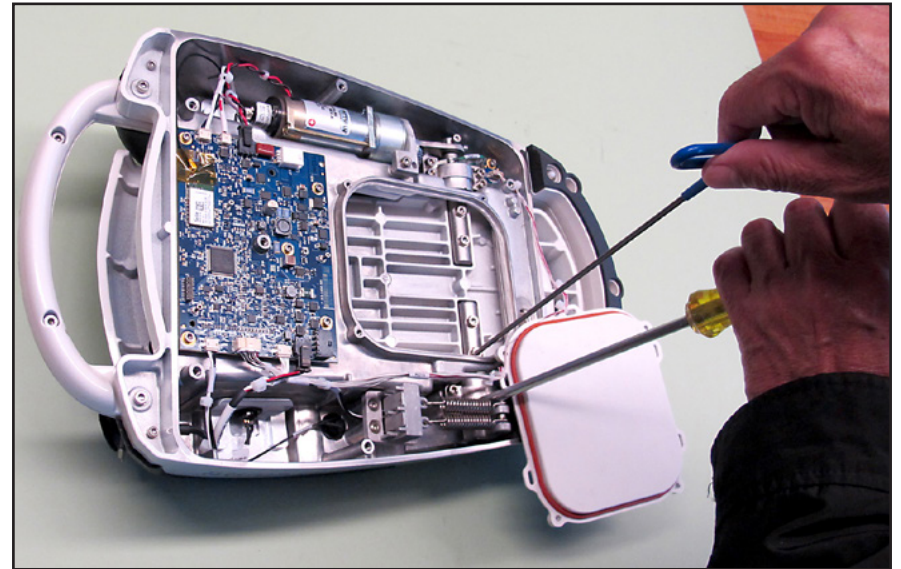

Figure 3-66 Removing the Treadle from the Spring-Loaded Shaft
52.5 While using a screwdriver to hold the spring-loaded shaft in place as shown in Figure 3-66, remove the two 3 mm screws (closest to the spring) securing the treadle to the spring-loaded shaft.